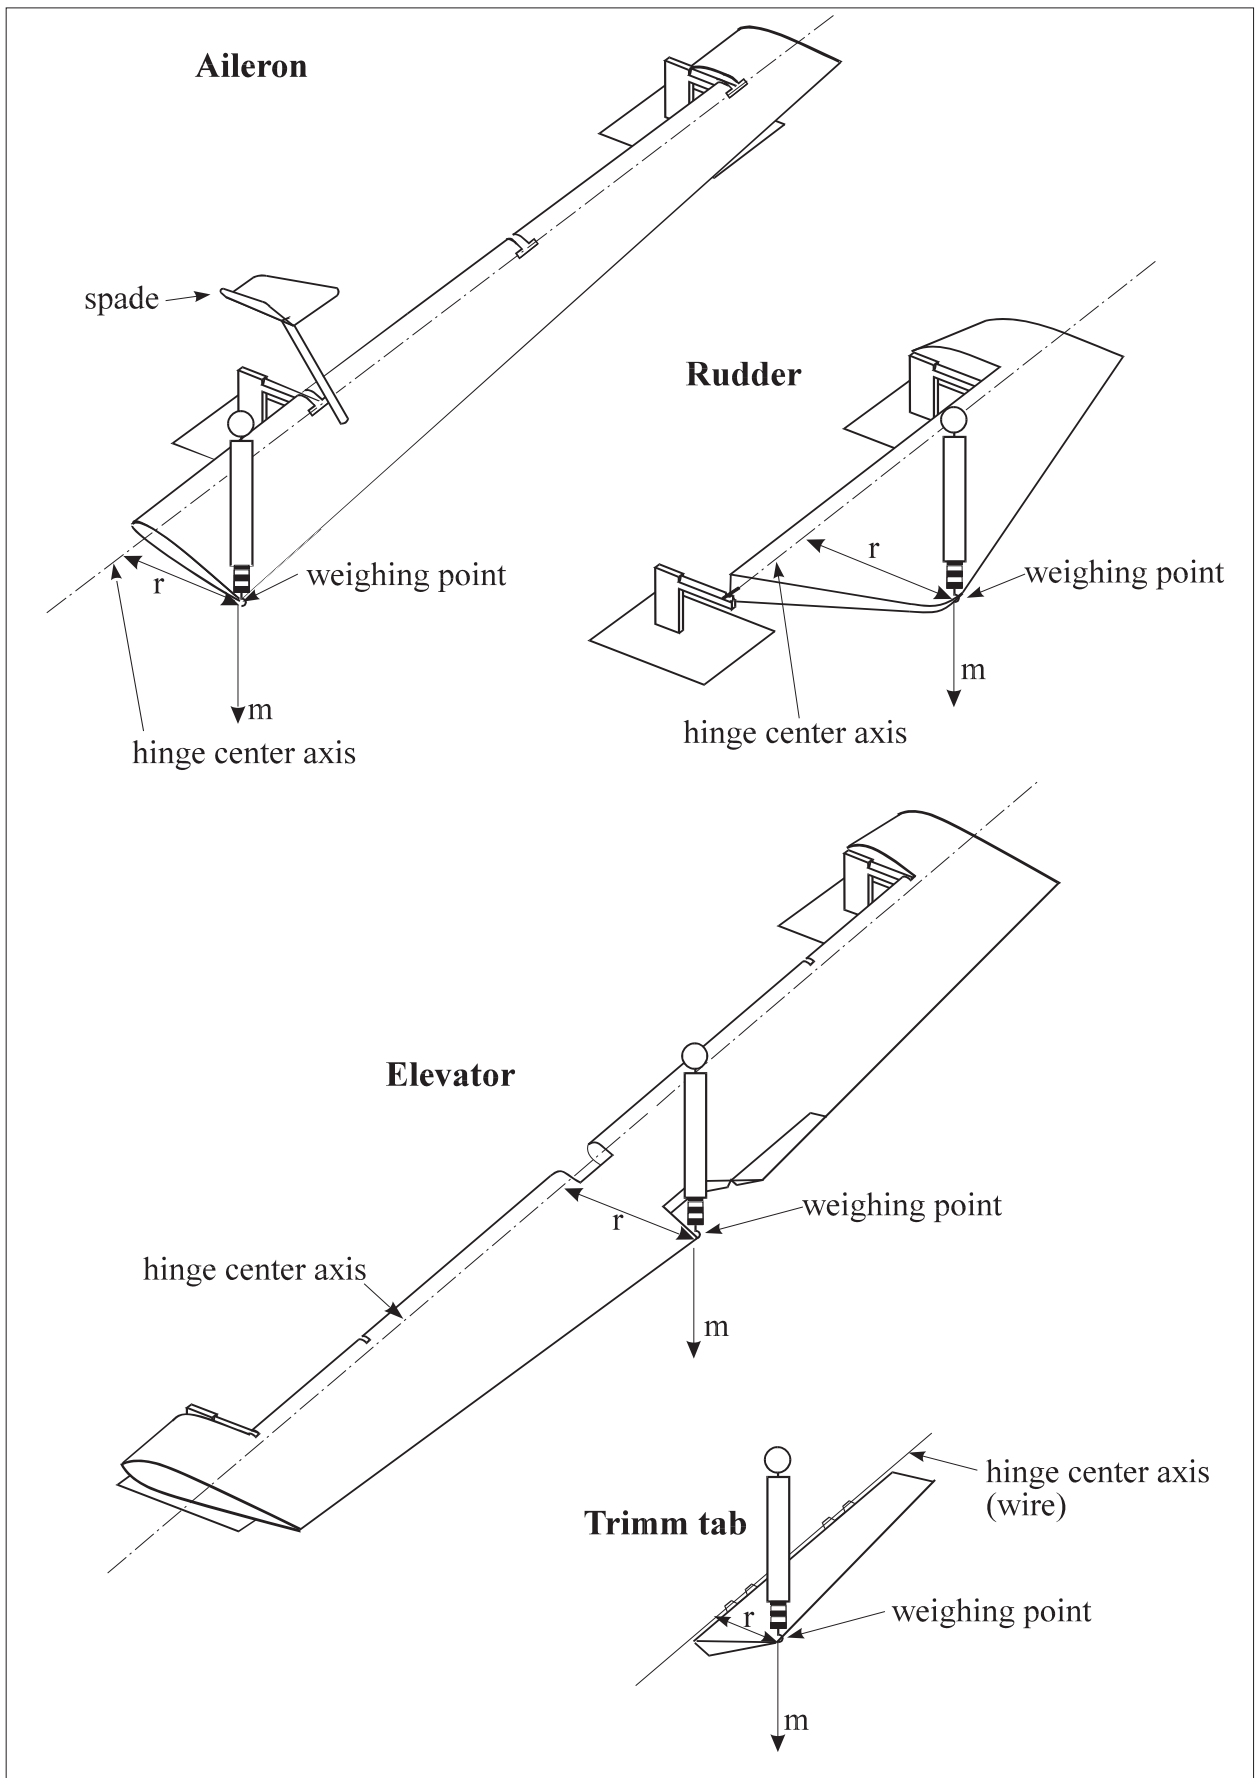

Figure 3
- 3 Put the control surfaces on the balancing mandrels (use a wire for the trim tab). Refer to Figure 3.
- Apply the thermal curing cycle.(Refer to Figure 3)